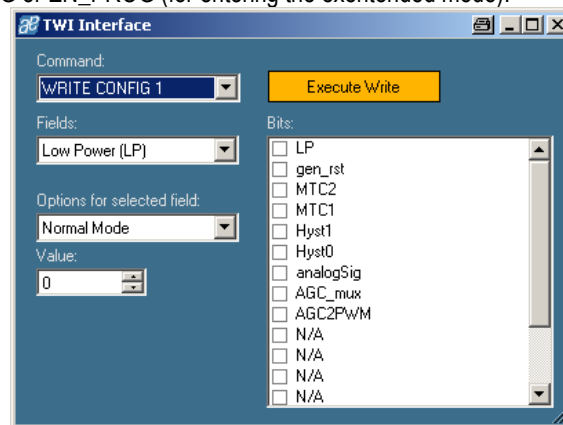

Figure 17: Communication command window
- Digital interface opens an additional window (see Figure 17), which provides all communications commands like WRITE_CONFIG or EN_PROG (for entering the extended mode).